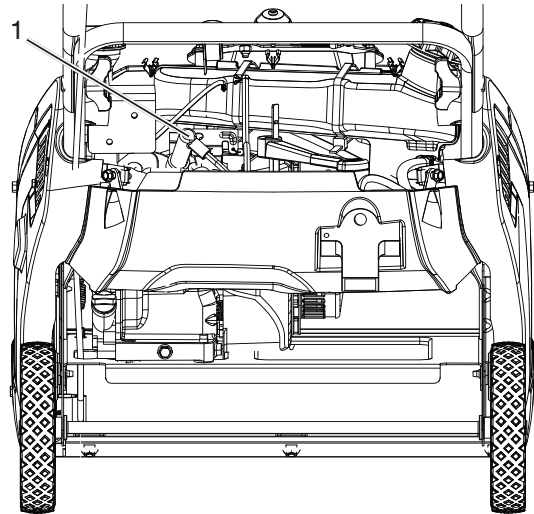

Figure 29
8. Disconnect the spark plug wire from the spark plug (Figure 29).
13. Connect the spark plug wire to the spark plug (Figure 29).